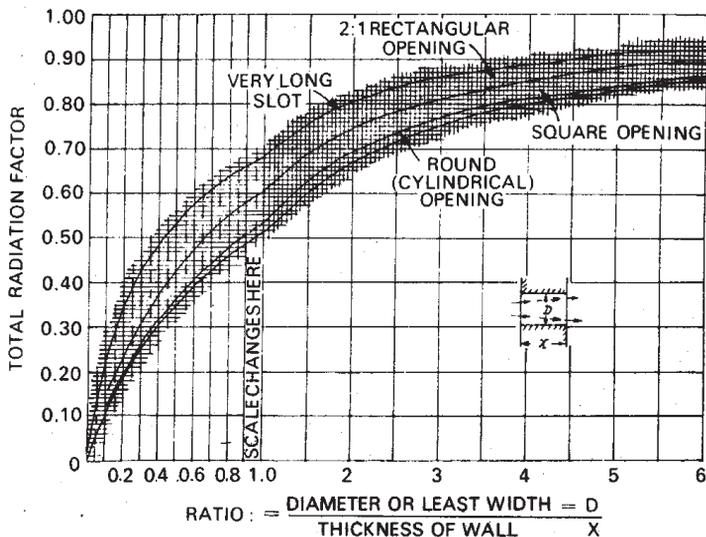
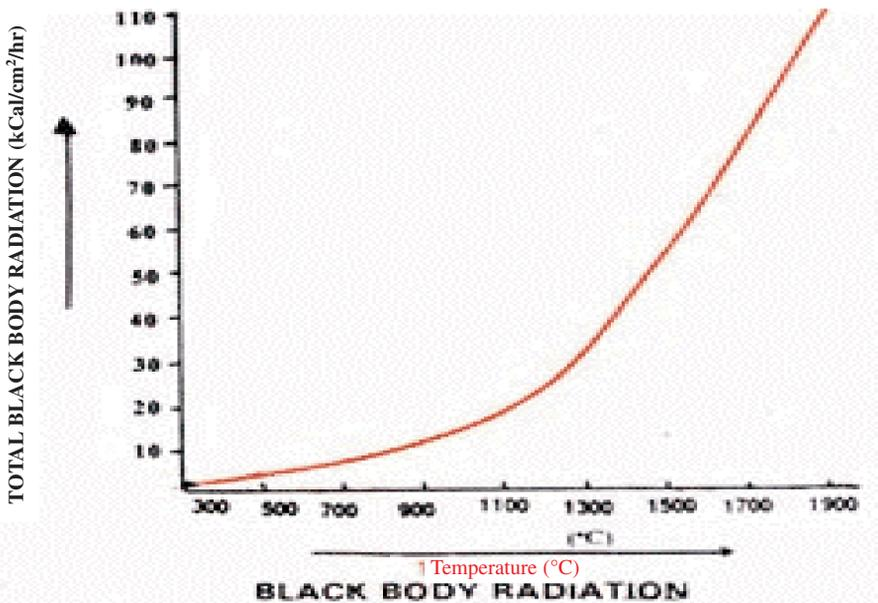

Figure 2.4 Factor for Determining the Equivalent of Heat Release from Openings to the Quality of Heat Release from Perfect Black Body
Figure 2.5 Graph for Determining Black Body Radiation at a Particular Temperature
If a furnace body has an opening on it, the heat in the furnace escapes to the outside as radiant heat. Heat loss due to openings can be calculated by computing black body radiation at furnace temperature, and multiplying these values with emissivity (usually 0.8 for furnace brick work), and the factor of radiation through openings. Factor for radiation through openings can be determined with the help of graph as shown in figure 2.4. The black body radiation losses can be directly computed from the curves as given in the figure 2.5 below.
- The factor of radiation (Refer Figure 2.4) = 0.71
- Black body radiation corresponding to 1340°C = 36.00 $\text{kCal/cm}^2/\text{hr}$ (Refer Figure 2.5 On black body radiation)